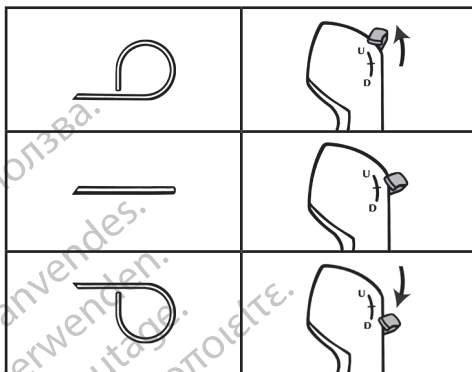

**Figure 2. Main features of the LithoVue Single-Use Digital Flexible Ureteroscope**
**Handle** – The handle enables the user to insert, withdraw and rotate the flexible shaft (Figure 2). The handle includes an articulation lever, an accessory access port, an irrigation port, and a connector cable with plug. The accessory access and irrigation ports, respectively, enable the insertion of surgical accessories and the introduction of irrigation/contrast fluid through the flexible shaft.